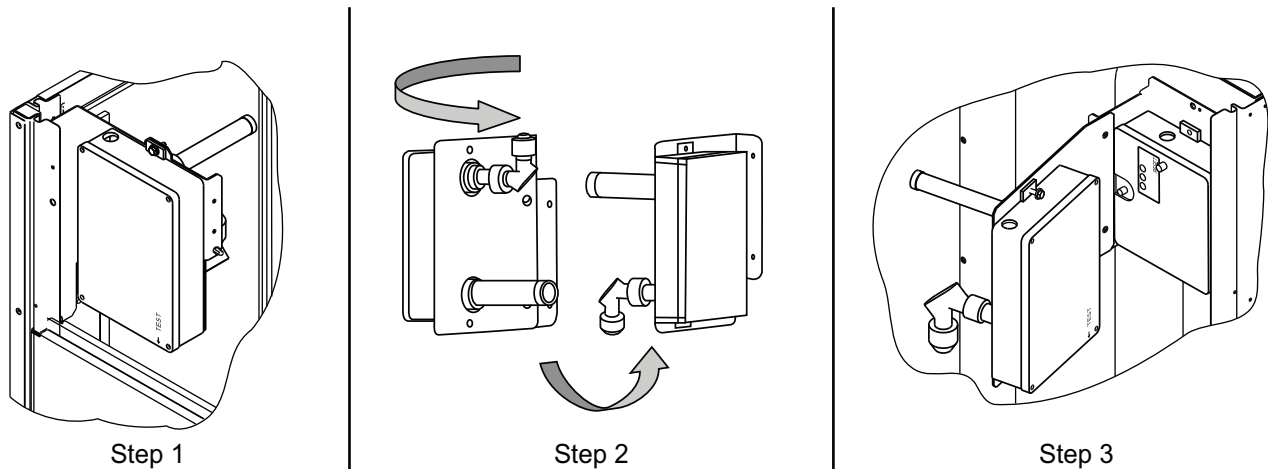

Fig. 64 — Completing Installation of Return Air Smoke Sensor
1. Unscrew the two screws holding the return-air smoke detector assembly. See Fig. 64, Step 1.
3. Turn the assembly 90 degrees and then rotate end to end. Make sure that the elbow fitting is pointing down. See Fig. 64, Step 2.
4. Screw the sensor and detector plate into its operating position using screws from Step 1. See Fig. 64, Step 3.